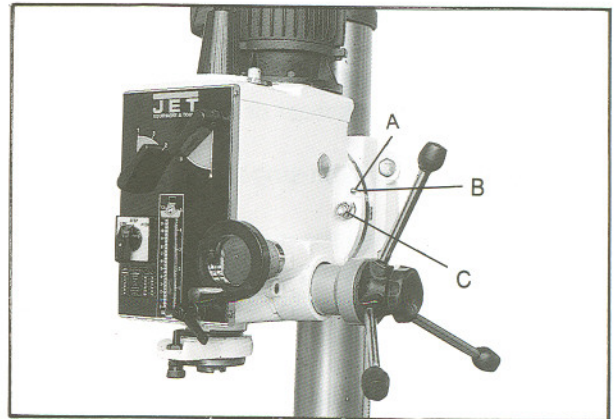

Fig. 15
1. Turn nut (A, Fig. 15) clockwise to pull out the alignment pin (B, Fig. 15).
2. Loosen hex nuts (C, Fig. 15).
4. Tighten two hex nuts (C, Fig. 15).